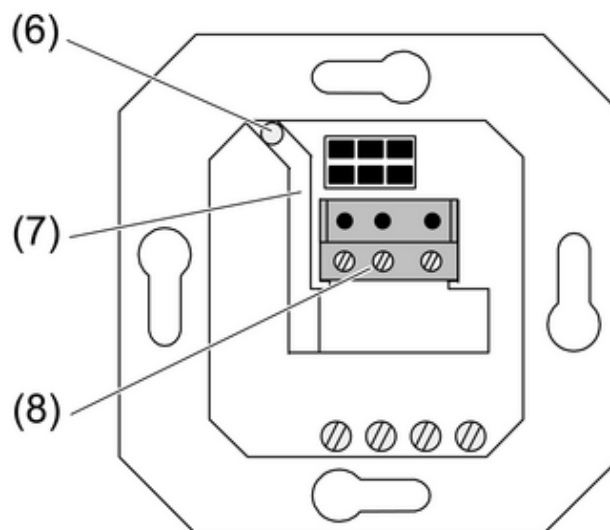
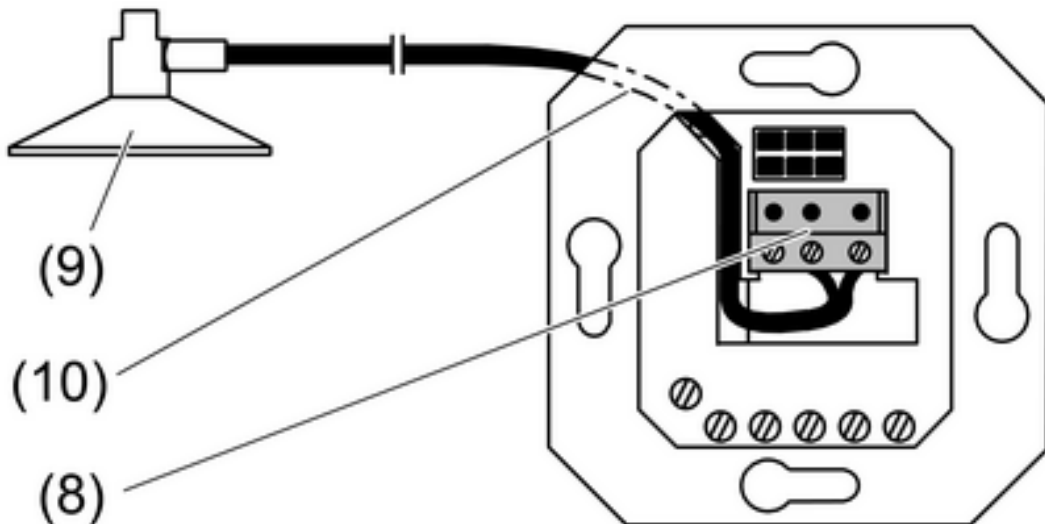
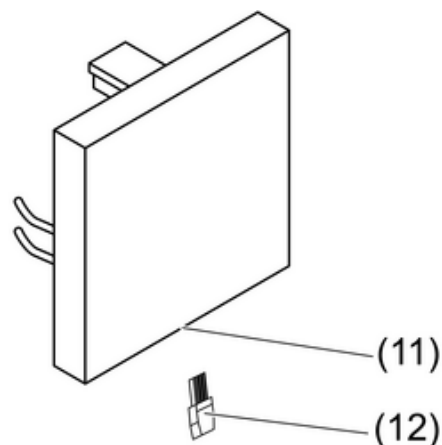

Figure 4: In-wall routing of the sensor cable
Figure 5: Surface-mounted routing of the sensor cable
Figure 6: Sun sensor on the cover
The sensor cable can be installed in three different ways. In-wall routing (figure 4), surface-mounted routing (figure 5), and with appropriate covers plugging the sensor cable into the cover (figure 6).
- i** For in-wall routing of the sensor cable, use only shielded cables. Recommendation: J-Y (ST)Y 2x2x0.6 mm.
- Insert the cable through the hole (6) in the insert and route it through the cable duct (7) to the terminal block (8) (figure 4).
- For surface-mounted routing of the indoor sensor (9), cut off the plug.
- Route the sensor cable behind the supporting plate (10) and through the cable duct to the connecting terminal (8) (figure 5).
- Insert plug (12) into the socket of the insert (11) (figure 6).